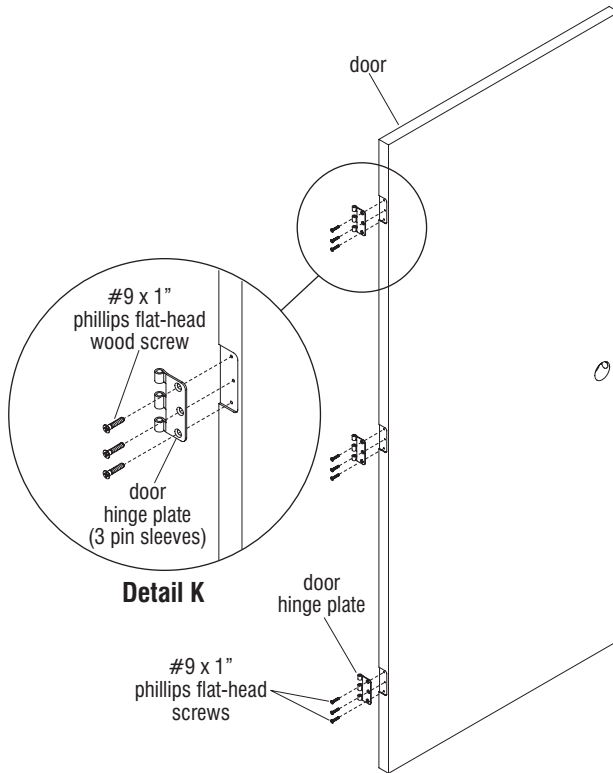

Figure 5
13. Install three door hinge plates (with three pin sleeves - Detail K) into pockets of door edge as illustrated using #9 x 1" flat-head wood screws. Do not over-tighten which may strip wood out (Figure 5 & Detail K).